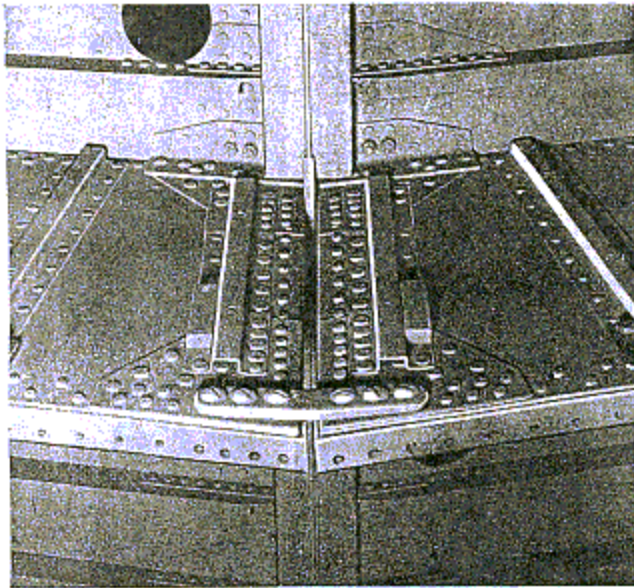

Figure 68—Splice Plate at Web 3
18. Remove the three bolts from one side of the splice plate which connects web 3 of each panel. (See figure 68.)
7. Install the splice plate which connects web 3 of each panel. (See figure 68.)